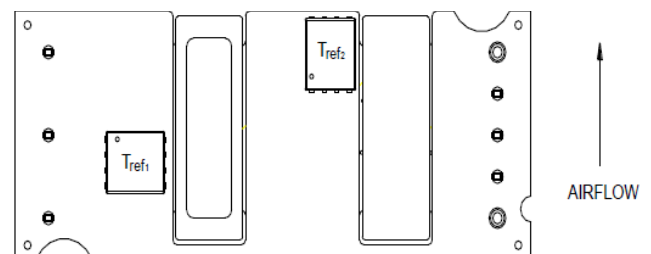
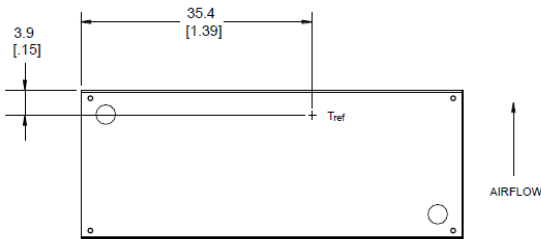

Figure 13. Tref Temperature Measurement Locations for Open Frame Module.
Figure 14. Tref Temperature Measurement Location for Module with Heatplate.
To provide protection under certain fault conditions, the unit is equipped with a thermal shutdown circuit. The unit will shutdown if the thermal reference point, T_{ref} , exceeds 135°C (Figure 13, typical) or 120°C (Figure 14, typical), but the thermal shutdown is not intended as a guarantee that the unit will survive temperatures beyond its rating. The module will Overtemperature Protection automatically restart upon cool-down to a safe temperature.
The thermal reference point, T_{ref1} and T_{ref2} used in the specifications for open frame module is shown in Figure 13. For reliable operation this temperature should not exceed 120°C and 124°C
The thermal reference point, T_{ref} , used in the specifications for modules with heatplate is shown in Figure 14. For reliable operation this temperature should not exceed 98 °C.